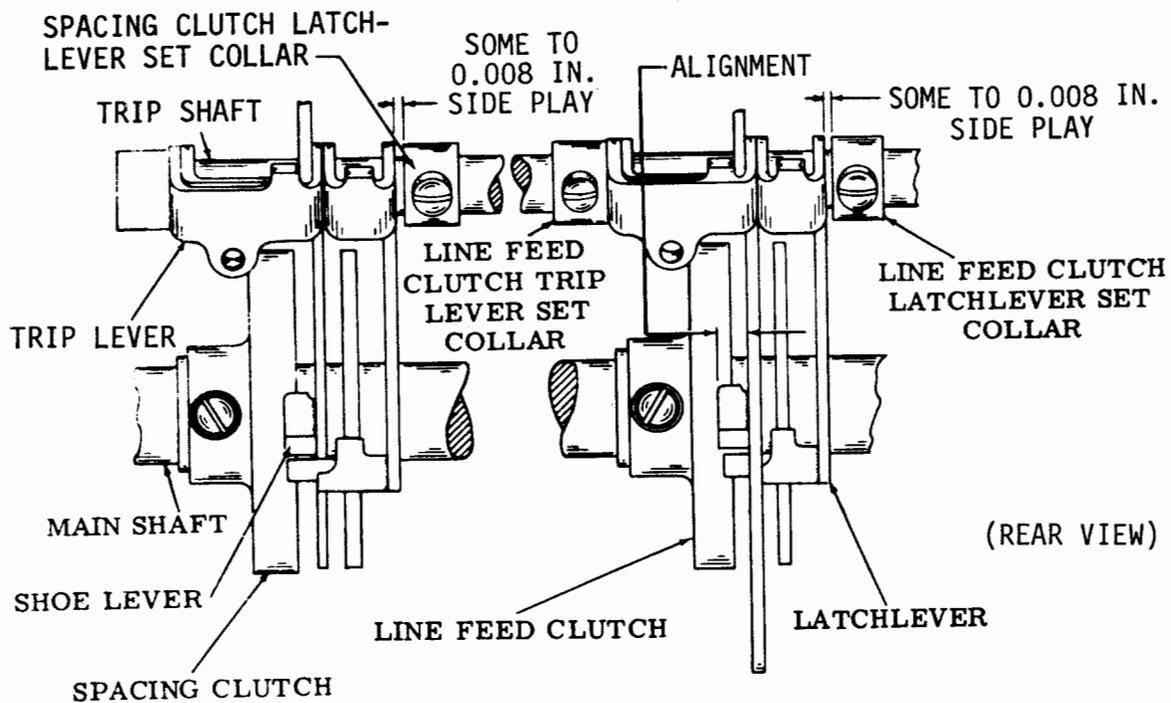

Figure 6-239. Clutch Trip Shaft Set Collars
(2) Clutch Trip Shaft Set Collars. Adjust clutch trip shaft set collars as follows:
- (a) Refer to figure 6-239.